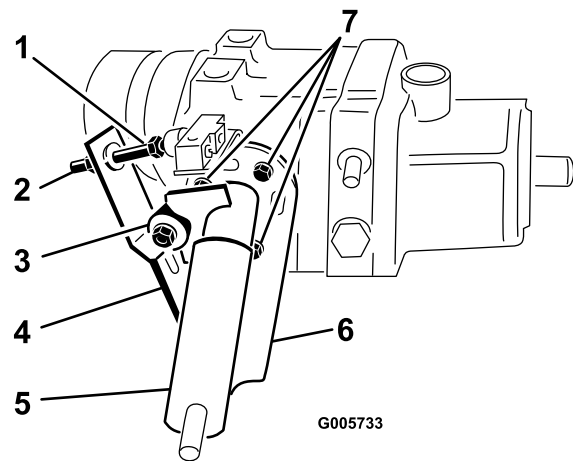

Figure 72
1. Park vehicle on a level surface and turn engine off. Apply the parking brake, tip seat forward, and actuate pump lever (Figure 72) to ensure assembly is properly seated and operating freely. Correct any discrepancy.
6. Because the wheel is rotating, the pump plate must be adjusted. But before adjusting the pump plate, move throttle to SLOW. If wheel is rotating forward, loosen capscrews, and lightly tap bottom of pump plate counterclockwise (Figure 72). By contrast, tap pump plate clockwise if wheel is rotating backward (Figure 72). When wheel stops rotating, tighten capscrews holding pump plate against side of transmission. Verify the adjustment with throttle in SLOW and FAST position.
- Ball bearing is loose or worn out (Figure 72).
- Weak or damaged leaf springs (Figure 72). Replace.
2. Actuate the pump lever (Figure 72) to ensure all parts are operating freely and seated properly.
3. Loosen jam nut. Rotate switch adjusting screw (Figure 72) until there is a gap between head of screw and switch button.